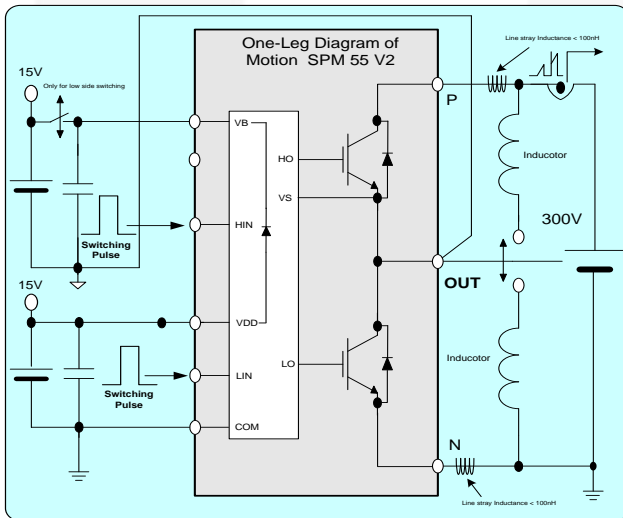
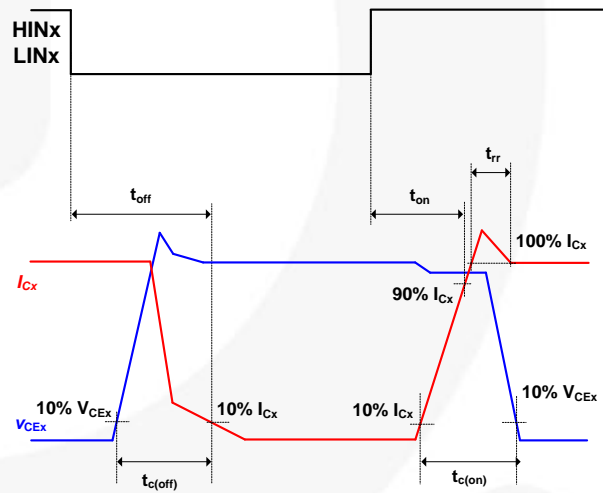

Figure 6. Switching Evaluation Circuit
Figure 7. Switching Time Definition
5. t_{ON} and t_{OFF} include the propagation delay of the internal drive IC. t_{C(ON)} and t_{C(OFF)} are the switching times of the IGBT itself under the given gate driving condition internally. For the detailed information, see Figure 6 and Figure 7.